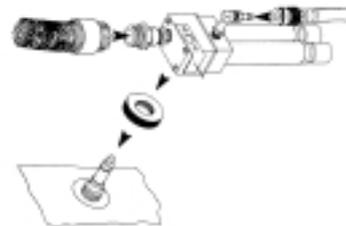

Figure 6
5. With the approved Bullard air supply hose connected to the breathing air source, and with air flowing into the hose, connect the quick-disconnect coupler on the air supply hose to the quick-disconnect nipple on the Dual-Cool (Figure 6).
6. Slide the shaft that is attached to the belt bracket through the reinforced opening in the suit (Figure 6).
7. Thread the plastic ring nut onto the shaft (Figure 6). Tighten firmly against the suit.
10. While squeezing the quick-disconnect lever, reconnect the Dual-Cool tube to the shaft on the outside of the suit, pressing firmly until it locks in position (Figure 6).